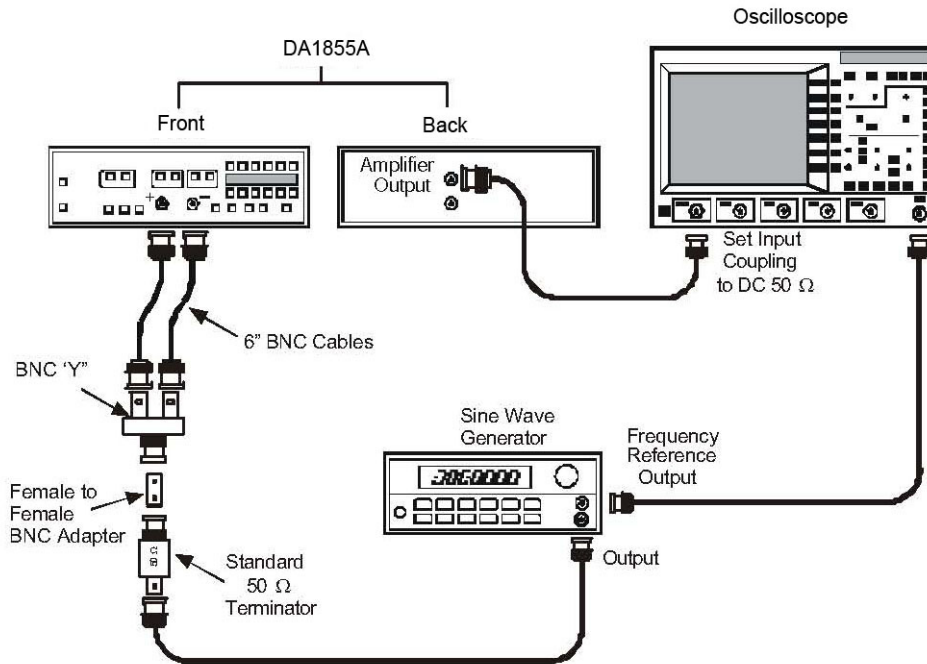

Figure 19, HF CMRR Test Setup 3.
18. Reconnect the AMPLIFIER OUTPUT cable to channel 1 of the oscilloscope. Refer to Figure 19.